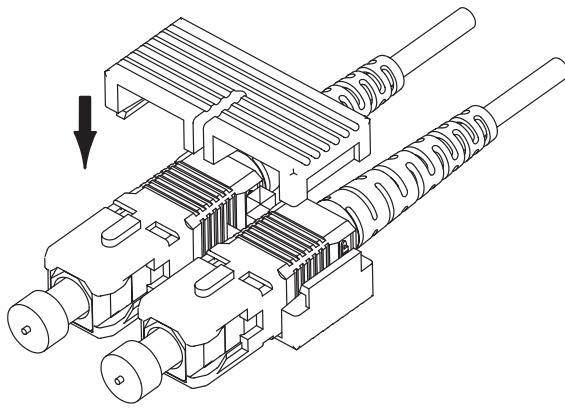

Figure 20
1. Place the simplex connector housings in one half of the duplex clip. See Figure 20.
2. Place the other half of the duplex clip over the housings and snap the two clips together. See Figure 20.